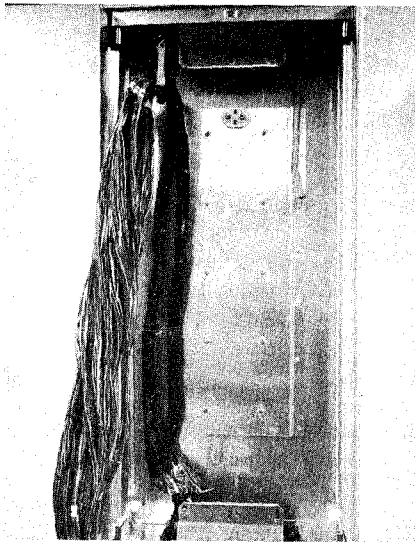

Fig. 2 — Taping of Cable Pairs in Group of 200 Pairs
4.04 The IN and OUT cables entering from the bottom of the cabinet must be taped in groups of 300 pairs or less if necessary from the point of entrance to the slack wire chain at the top. (See Fig. 2).